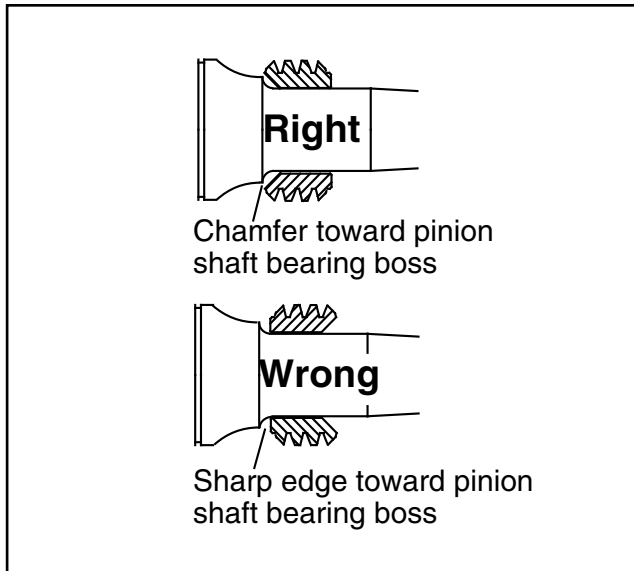

Figure 10
- Be sure oil pump drive gear is installed with chamfered side toward pinion shaft bearing boss. See Figure 10.
If oil pump drive gear is installed with sharp edge against radius on pinion shaft bearing boss, sharp edge may nick radius. This can result in a stress riser that may cause shaft to break. See Figure 10.